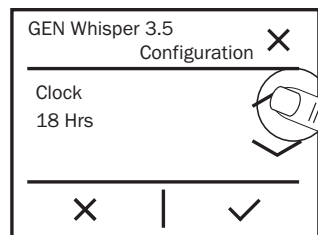
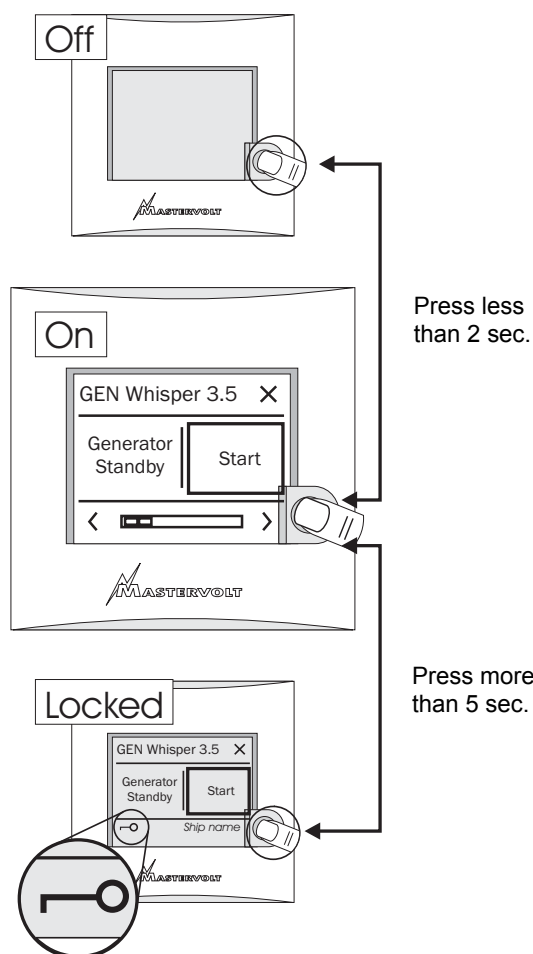

Figure 11
Figure 14: Use of the button.
If the *MasterView Easy* doesn't show any information at all, press the button shortly to switch it on (see figure 14). Refer to chapter 12 if the *MasterView Easy* still doesn't show any information.
- 7 Touch the right pointing arrow > on the menu bar. The hours setting of the clock is shown (figure 11). Touch the up/down pointing arrows to change. Example: 18. Then touch ✓ to confirm.
Press the button shortly to switch on the *MasterView Easy* panel. See figure 14. After a short time the initial screen is shown. Pressing the button shortly again results in switching off the *MasterView Easy* panel.
Pressing the button for more than five seconds when the *Easy* panel is switched on, results in locking the panel, see figure 14. In this mode the panel will not react on touching the screen. The "locked" key is shown in the left lower corner, see figure 11. Unlocking is accomplished by pressing the button for more than five seconds again.